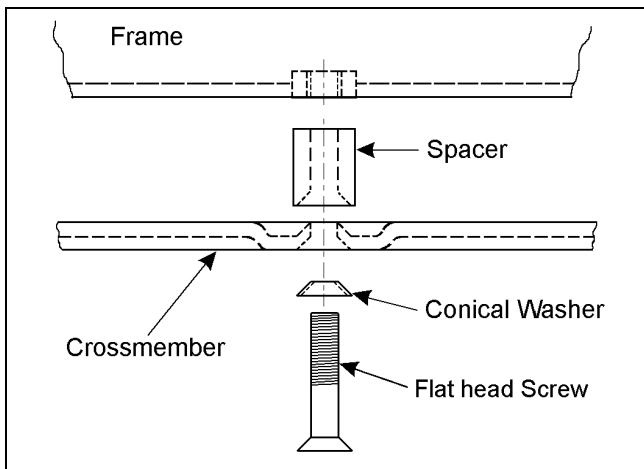

Figure 17
- 4) If flat head screws were removed, install a conical washer and apply thread lock to 3 flat head screws from kit 860161. Insert the screws through the crossmember, spacers, and into the frame. See figure 17.